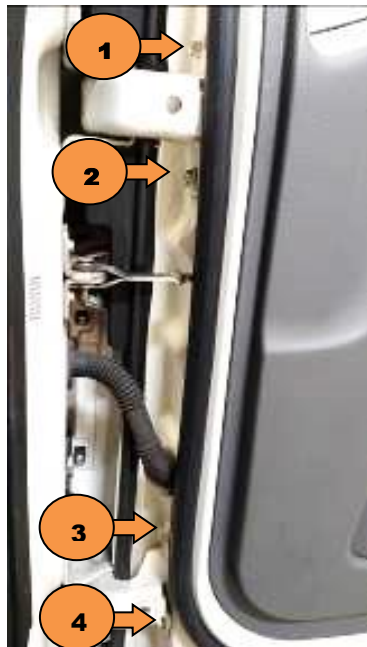

Figure 14
10. Loosen bolt Number 1 shown in Figure 14 using a 3/8" drive ratchet, a 1" long-3/8" drive extension, and a 12mm crow's foot. After the bolt is loose, remove the bolt using a 12mm wrench. Replace bolt Number 1 with a new bolt, the part number for which is provided on the last page of this bulletin.
12. Repeat Steps 8 through 11 for bolts 2, 3, and 4. (See Figure 14.)